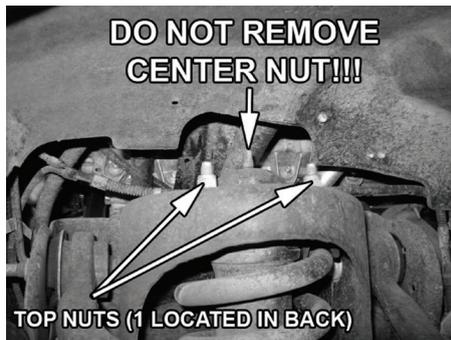

Fig. 1
5. Remove the (3) top nuts (Fig. 1) that secure the stock shock assembly to the vehicle. **DO NOT** remove center nut; doing so will release the spring from the stock assembly and could result in **SERIOUS INJURY** or **DEATH!**